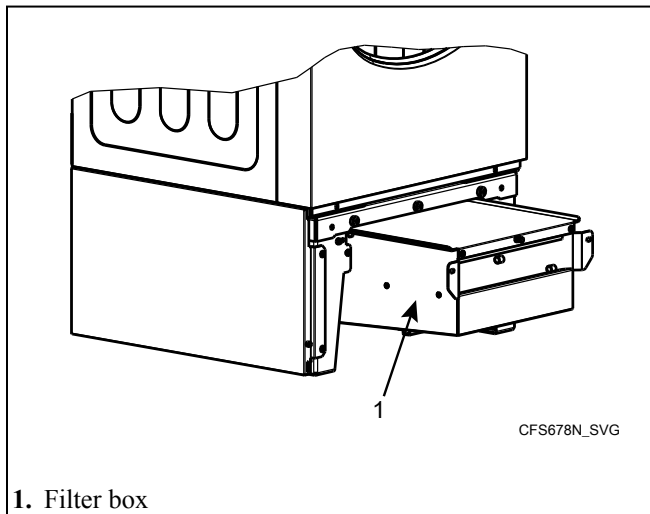

Figure 60
5. Carefully push the box forwards along the line to remove it. Refer to *Figure 60*.